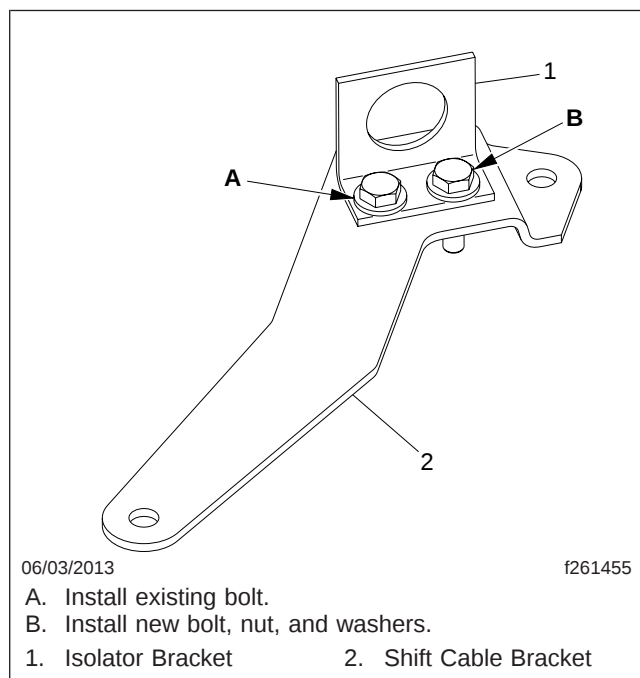

Fig. 4, Isolator Bracket Installation
8. Install the new bracket on the shift cable bracket, using the existing capscrew and the new bolt, nut, and washers. See Fig. 4. Tighten the existing capscrew 35 lbf-in (395 N·cm), and the new bolt 60 to 84 lbf-in (680 to 950 N·cm).